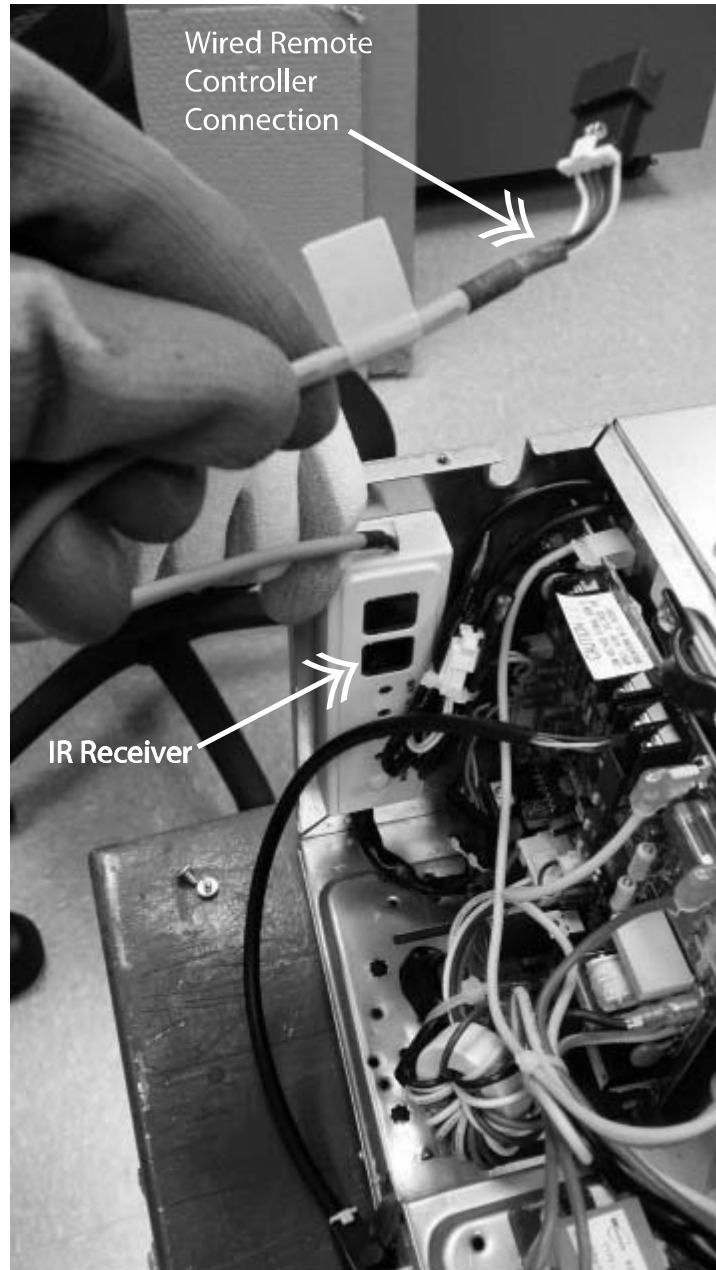

Fig. 48 – Control Box
**NOTE:** If a wireless remote controller is used, relocate the IR receiver within line of sight of remote location using the 6 ft. cable included. The factory location of the IR receiver is inside the control box (see Fig. 48).
To connect the wired remote controller (Timer Function KSACN0101AAA) to the indoor unit, use 5-core shielded cable and 5-pin connector from IR receiver located in the control box (see Fig 48).